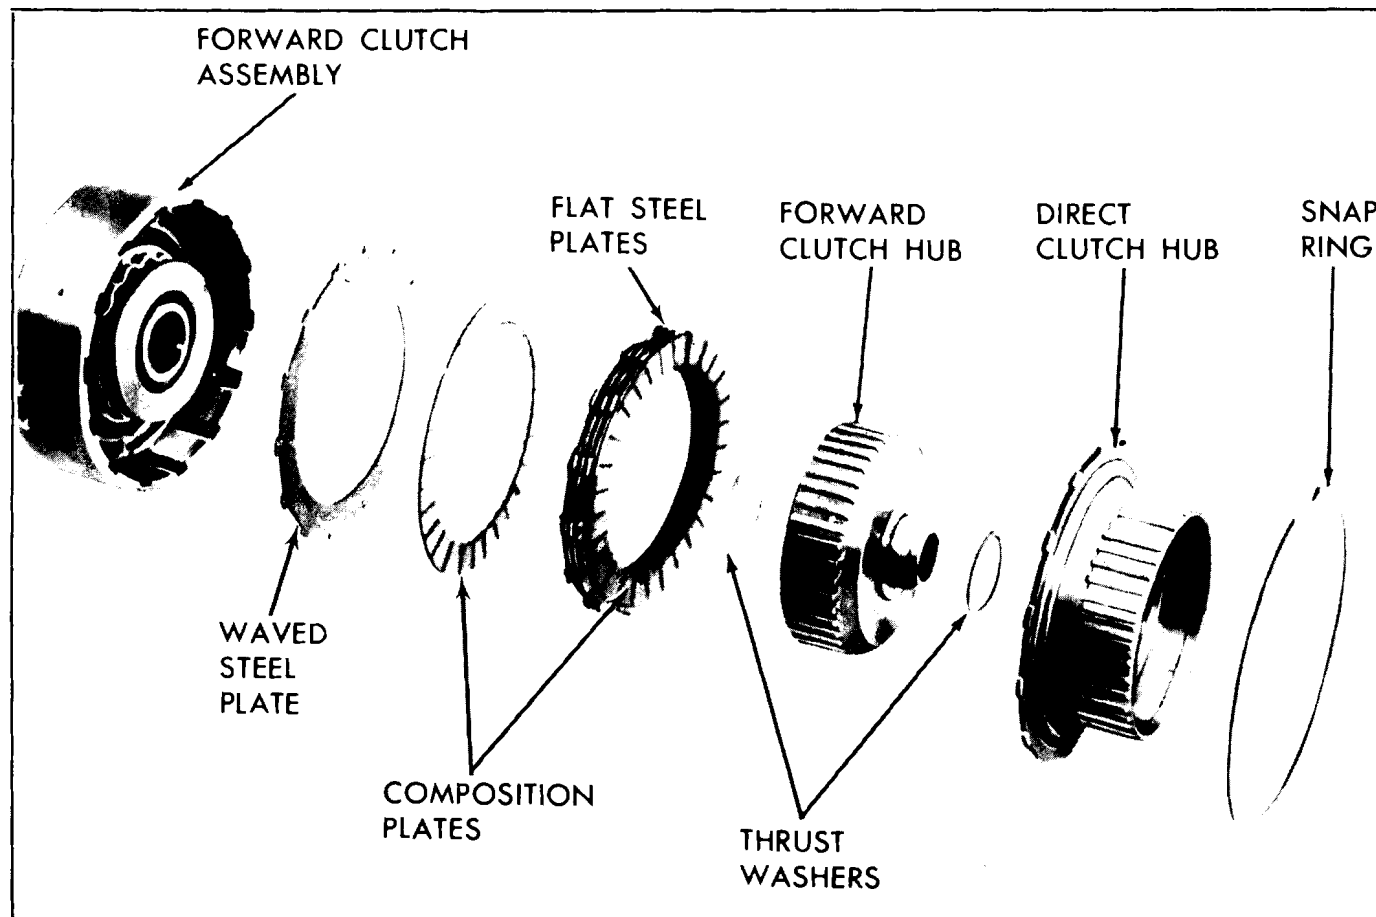

Fig. 7E-113 Exploded View of Forward Clutch
3. Install spacer(s) if used, retainer and spring into pressure regulator bore (Fig. 7E-108).
9. Install two (2) hook-type oil seal rings.